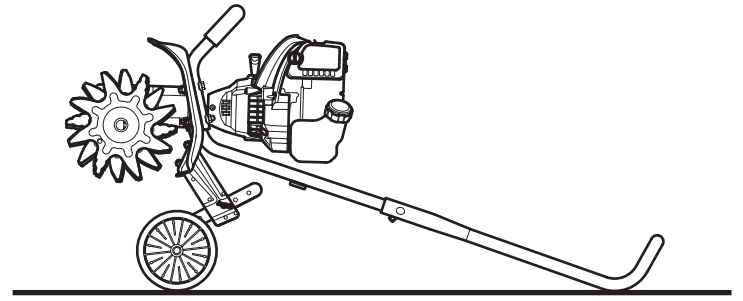

Fig. 13
2. Set the unit on a flat, level surface. Tip the unit back so that the handlebar touches the ground and the engine is in a horizontal position (Fig. 13).
2. **Set the unit on a flat, level surface.** Tip the unit back so that the handlebar touches the ground and the engine is in a horizontal position (Fig. 13).